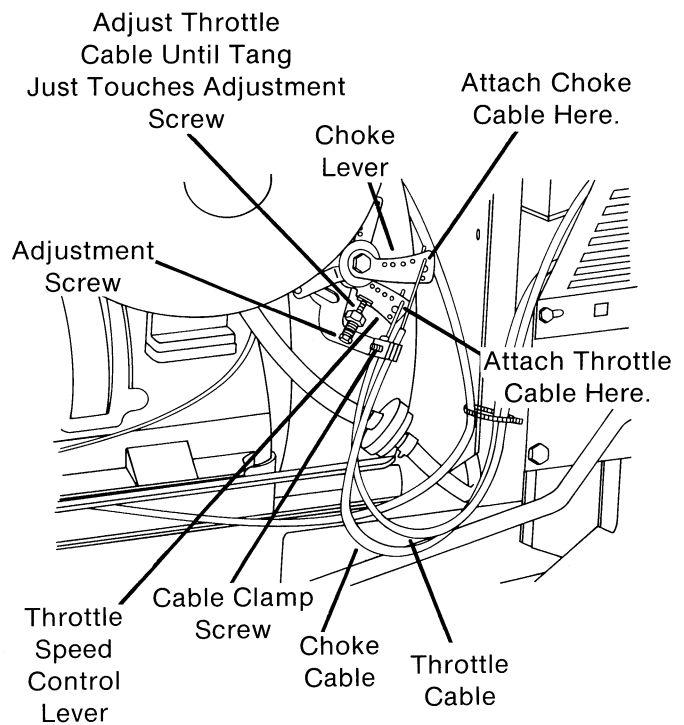

FIG. 4
- I. Loosen cable clamp screws, securing throttle and choke cables to left side of engine, far enough so both cables can be removed. (Fig. 4) Unhook throttle cable end (inner cable) from throttle speed control lever. Unhook choke cable end (outer cable) from choke lever.
rear hole on inside control lever. Position cable under cable clamp and move throttle cable until tang on speed control lever just touches throttle adjustment screw. (Fig. 4) Tighten cable clamp screw after choke cable has been adjusted.
- b. Choke Cable - Remove air cleaner. Attach end of choke cable to top rear hole on outside control lever. (Fig. 4) Position cable under cable clamp and push knob on choke control in all the way against instrument panel. Adjust cable until butterfly in carburetor throat is full open. Tighten cable clamp screw, making sure throttle cable adjustment has not changed. Pull knob on choke control out (minimum 1 1/8") butterfly in carburetor throat must close all the way. Adjust cable until proper choke is achieved. Replace air cleaner.